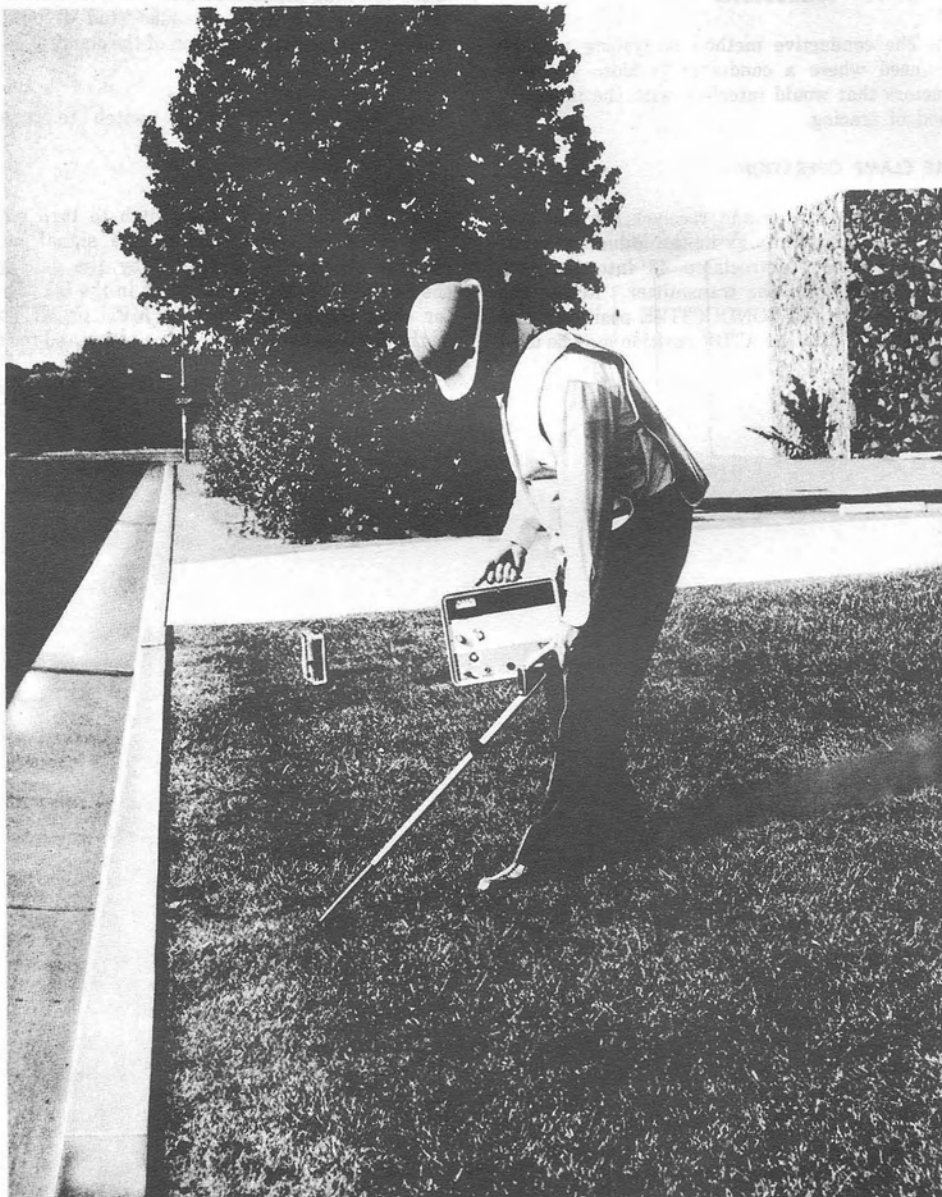

Fig. 9—Determination of Conductor Depth Using Inductive Probe
- Then place probe at 45° angle (Fig. 9) and move off to one side of the conductor until a null is achieved on the receiver meter.